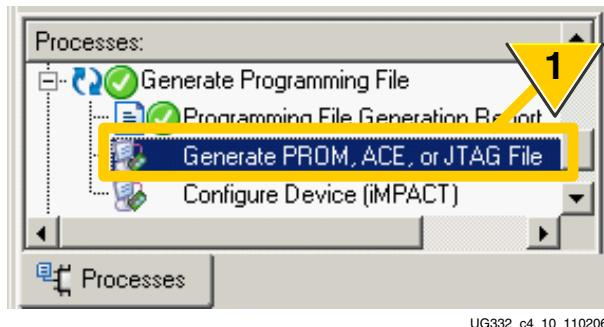

Figure 10-3: Double-click **Generate PROM, ACE or JTAG File**
1. From within the ISE Project Navigator, double-click **Generate PROM, ACE, or JTAG File** from within the Process pane, as shown in Figure 10-3.